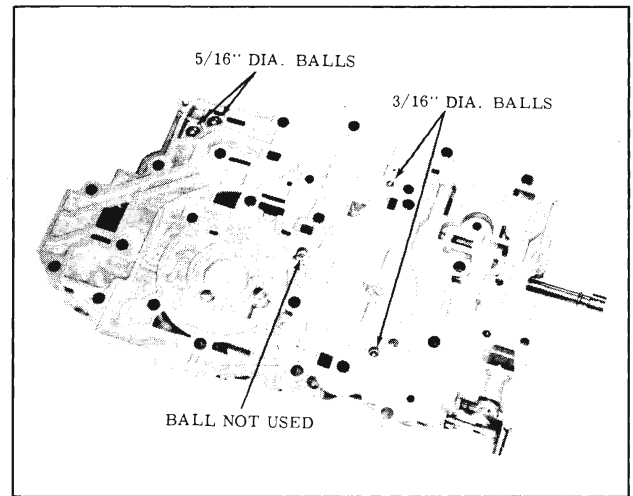

Fig. 3-284 Ball Checks
4. Remove (2) 5/16 dia. and (2) 3/16 dia. ball check valves from the channel plate. (Fig. 3-284)
6. Install (2) 5/16" check balls in the pockets in the upper left hand corner. (Fig. 3-284)